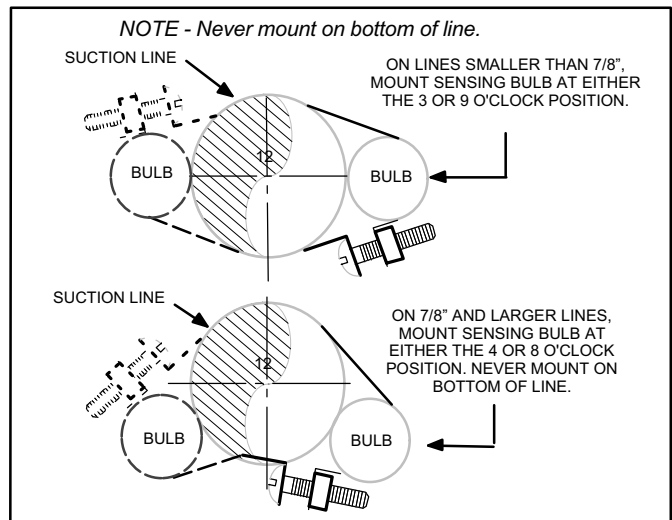

Figure 13. TXV Sensing Bulb Installation
5. Attach the sensing bulb of the TXV in the proper orientation as illustrated in figure 13 to the suction line using the clamp and screws provided.